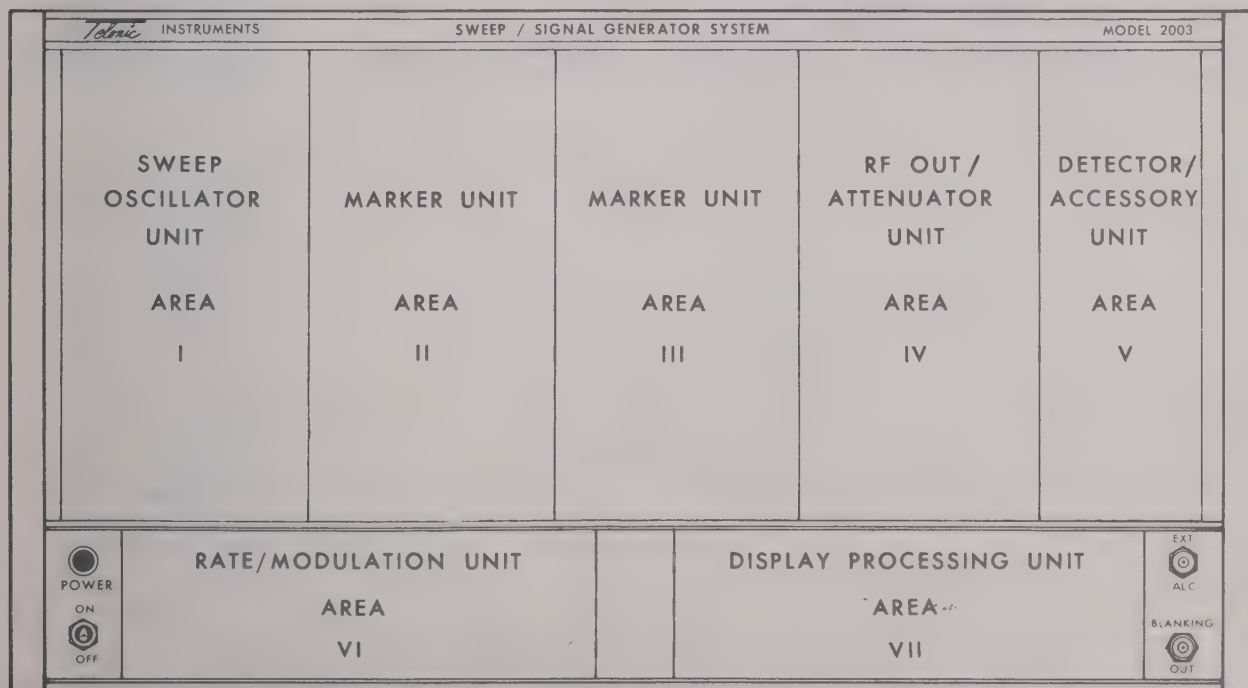

Figure 2-3. 2003 Plug-in Locations
a. Insert the RF OUTPUT/ATTENUATOR PLUG-IN UNIT into Area IV of the 2003 SWEEP/SIGNAL GENERATOR CONTROL CHASSIS (refer to figure 2-3.) and tighten the front panel knurled fastening knob.